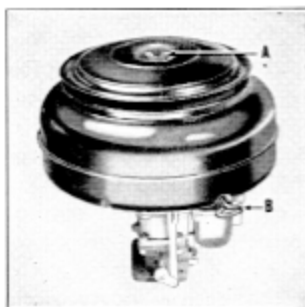

Figure 14
1. Loosen long clamp screw (B) at base (Figure 14), lift up and take off cleaner.
2. Remove wing nut (A) at top of cleaner, take out upper section and wash filter element in kerosene. Do not oil.